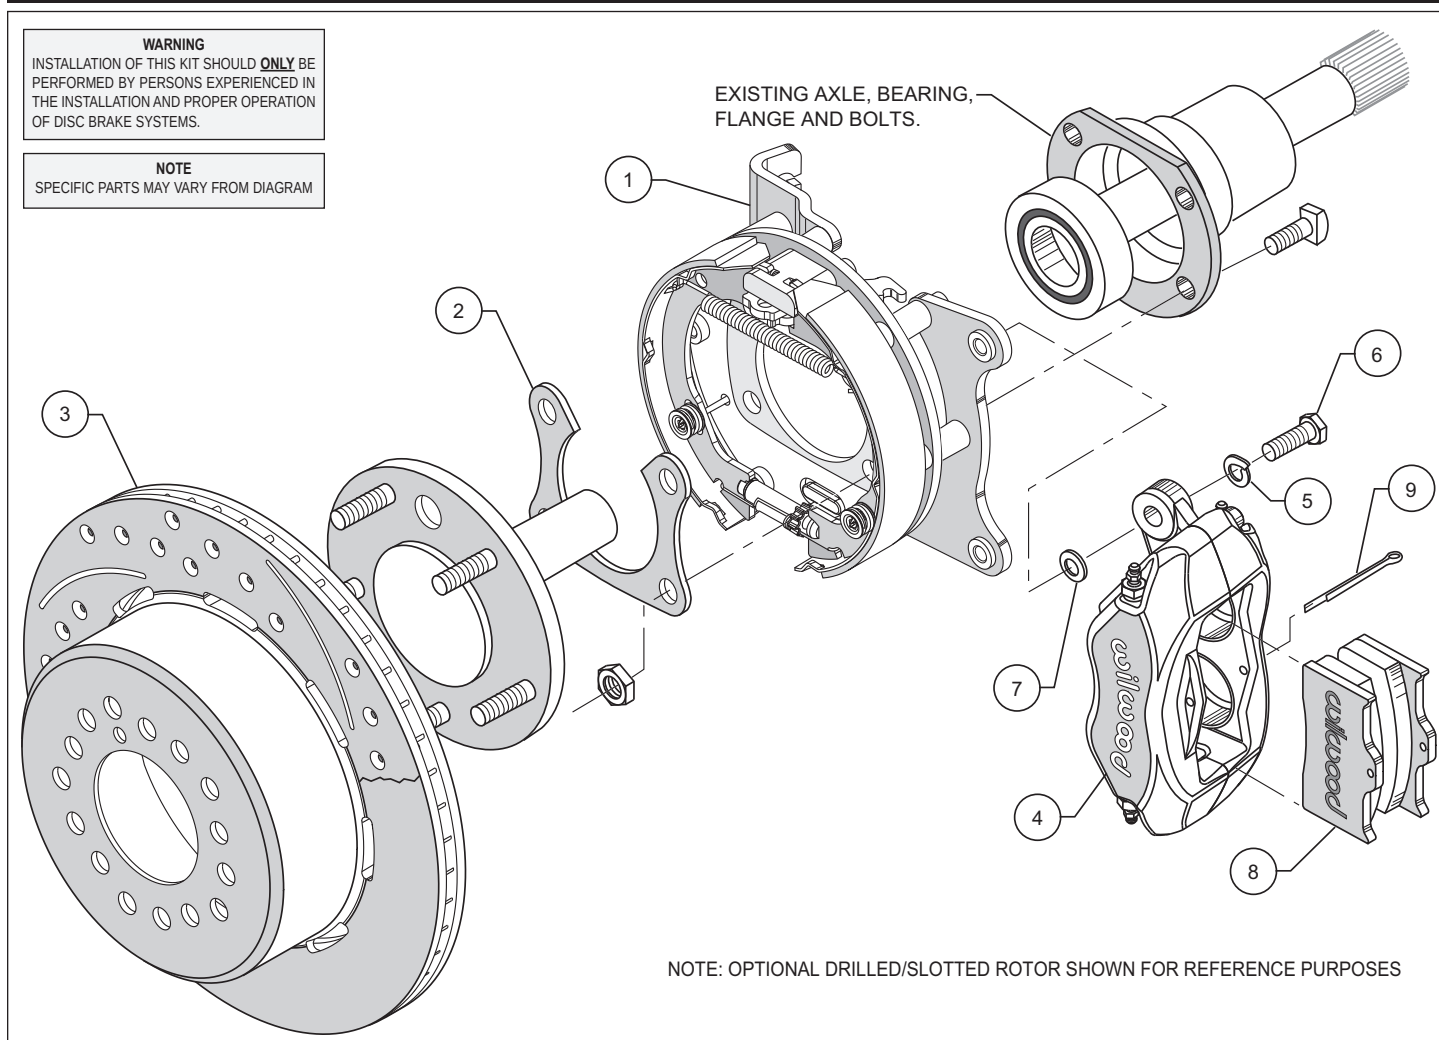

Figure 1. Typical Installation Configuration
- Full Circle Retainers** require the utilization of a qualified machine shop to press off the axle bearing and OEM retainer. Then have machine shop install new retainer (2), supplied with bracket kit with lip facing toward bearing, reference Figures 1, 4 and 5 (we suggest that you install a new bearing at this time, not supplied with kit).
- B. **"U" Retainers** require the removal of the OEM retainer by cutting or grinding a notch in the retainer to facilitate removal. Once OEM retainer is removed, install new retainer (2) supplied with bracket kit with the "U" opening facing up and the lip facing toward bearing, reference Figures 1, 4 and 5.